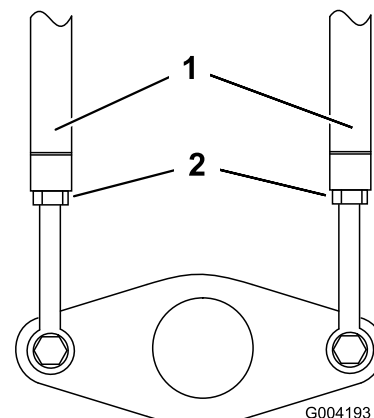

Figure 46
3. Loosen the jam nuts on the traction rods, under the control panel (Figure 46).